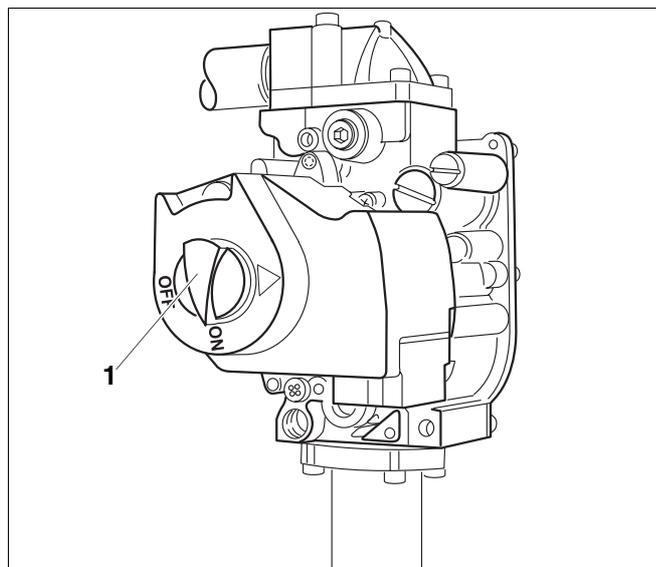

Fig. 43 Gas valve
- 24. If the gas valve operates correctly, proceed to step 25. If the gas valve does not operate correctly, switch ON/OFF switch (→ Fig. 43) on the gas valve clockwise to the OFF position immediately. Close main gas valve. Disconnect heating system from the power supply and inform the customer service technician or LP gas company.